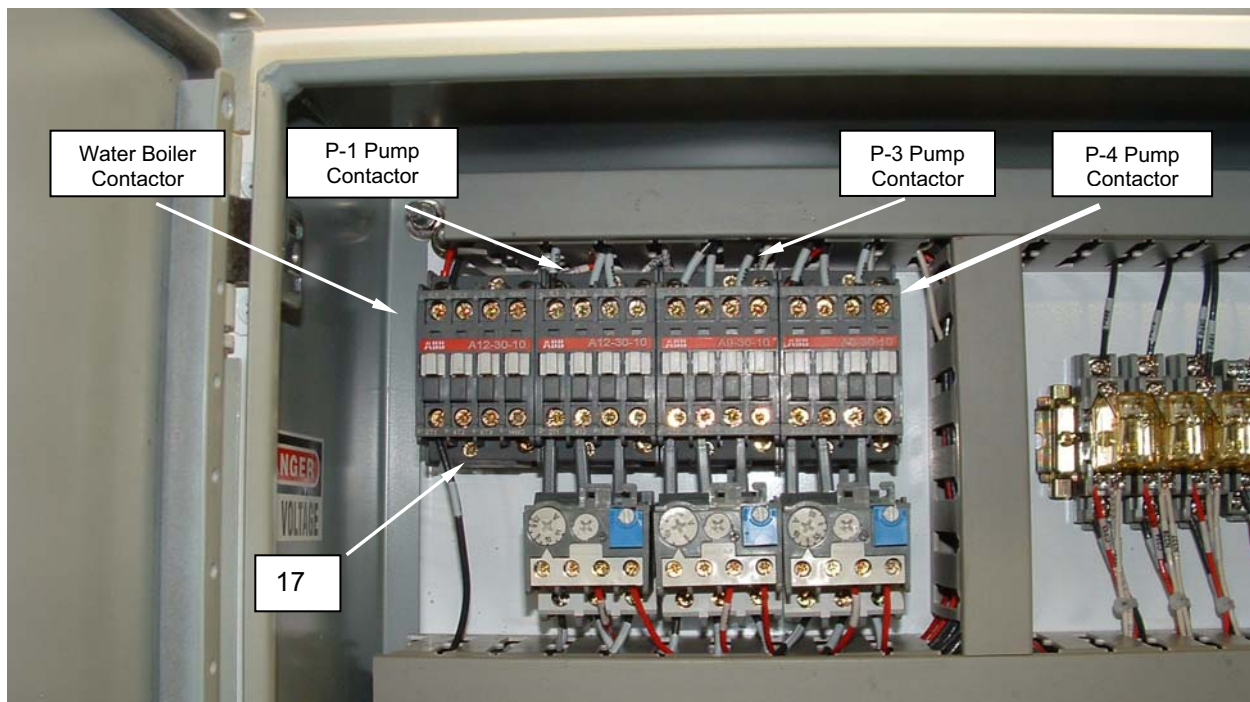

Figure 10. Replace a Contactor.
3. Tag and disconnect wiring from the contactor (**Figure 10, Item 17**).
4. Remove the screws retaining the contactor (**Figure 10, Item 17**) to the PLC enclosure, and remove the contactor.
5. Install the replacement contactor (**Figure 10, Item 17**) and retain with screws.